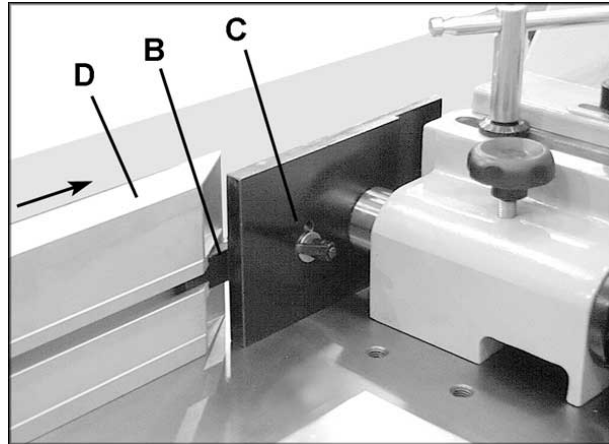

FIGURE 17
2. Fasten bar (B) to the front of the fence half using the locking lever (C) and washer, shown in Figure 17. Slide an aluminum fence (D) onto the bar. (NOTE: Right hand and left hand fences are slightly different.) Repeat for other side.
1. To adjust the aluminum fence halves endwise, loosen the two fence locking levers (C-Figure 17), slide the fence halves to the required positions and tighten locking levers.